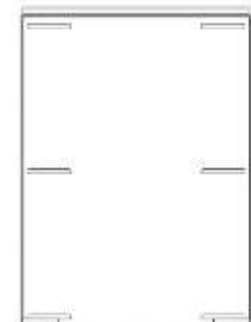

Figure 3—Minimum space between mounted chargers should be 36 in. (914 mm)
- b. The minimum space between two installed EV quick chargers should be 36 inches (914 mm) to help ensure good air flow and user accessibility around charger (Figure 3).